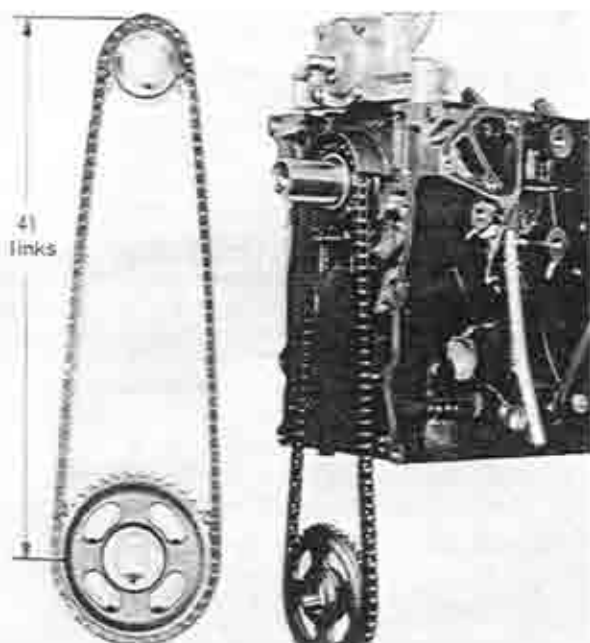

Fig. 1-55 Installing of timing chain
2. Place the timing chain on the crankshaft sprocket and camshaft sprocket with the tally marks aligned as shown in Fig. 1-55.